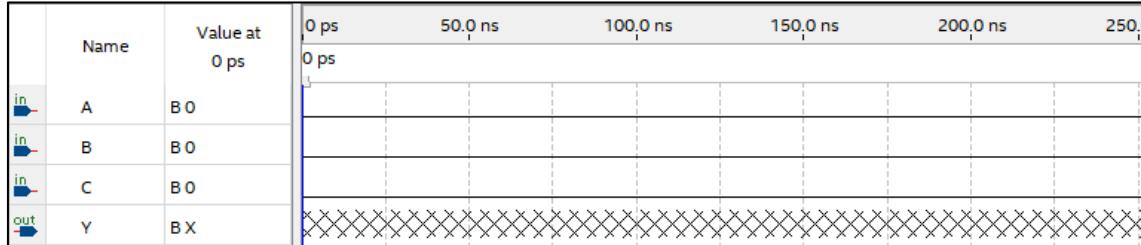

Figure 8: VWF window with 25 ns grid size
- 1) Change the default grid size to 25 ns (or more) by the following. Go to the “Edit” menu and select “Grid Size”. Then change the Time period to 25.0 ns. Your simulation should look like Figure 8.